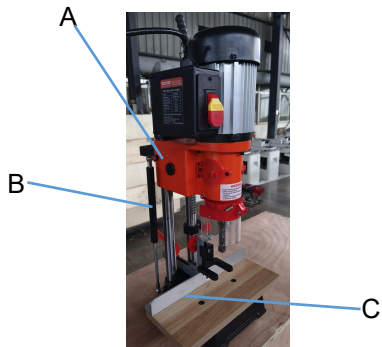

Fig. 3
2. Make sure head (A) Fig. 3, is held in the up position and assemble the gas spring (B) to the two fittings (C), one located on the column and the other on the back of the head.